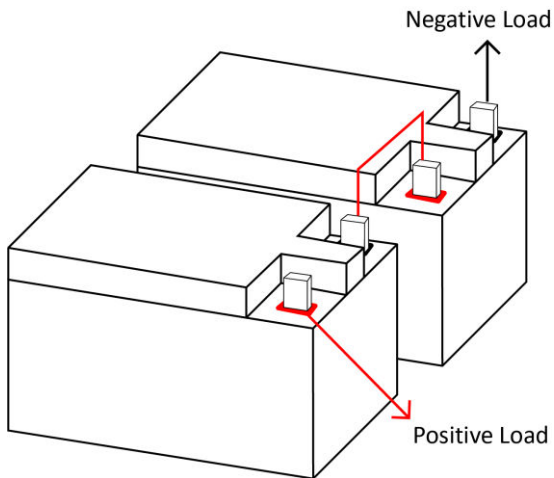
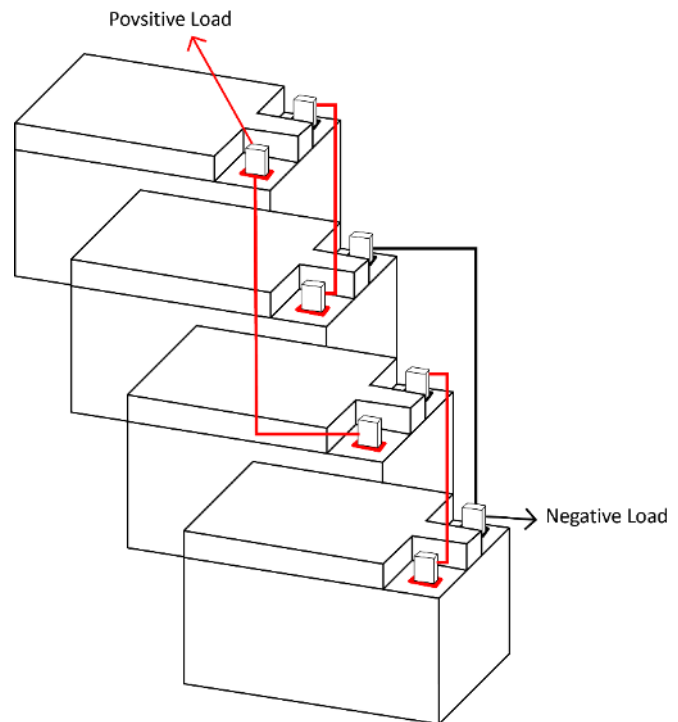

Figure 4.1: Two 5024 Batteries connected in Series to create a 48V 50Ah Battery Bank
Figure 4.2: Four 5024 Batteries connected in Series to create a 48V 100Ah Battery Bank
7. Repeat steps 3-6 for additional batteries, but **DO NOT** exceed 48V. An example of a correct series connection can be found below in Fig. 4.1 and Fig. 4.2.